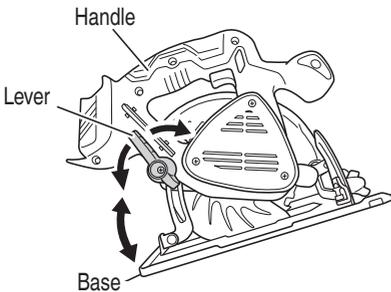

Fig. 8
- Adjusting the cutting depth (Fig. 8)
If the lever to adjust cutting depth (Fig. 8) is loose, injury can result. Make sure that it is tightened securely.